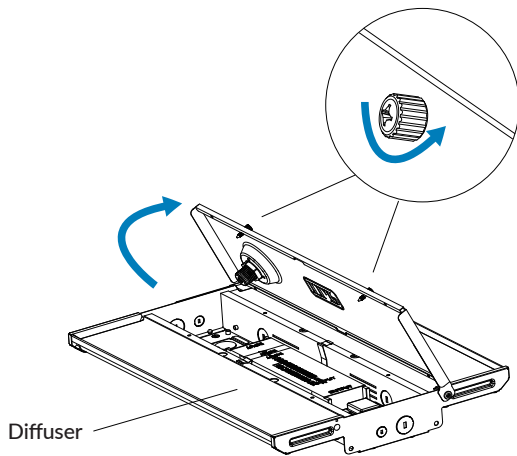

Figure 14
- Open the driver compartment door from front side to access the diffusers (Figure 14).